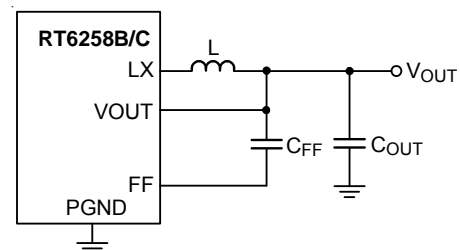
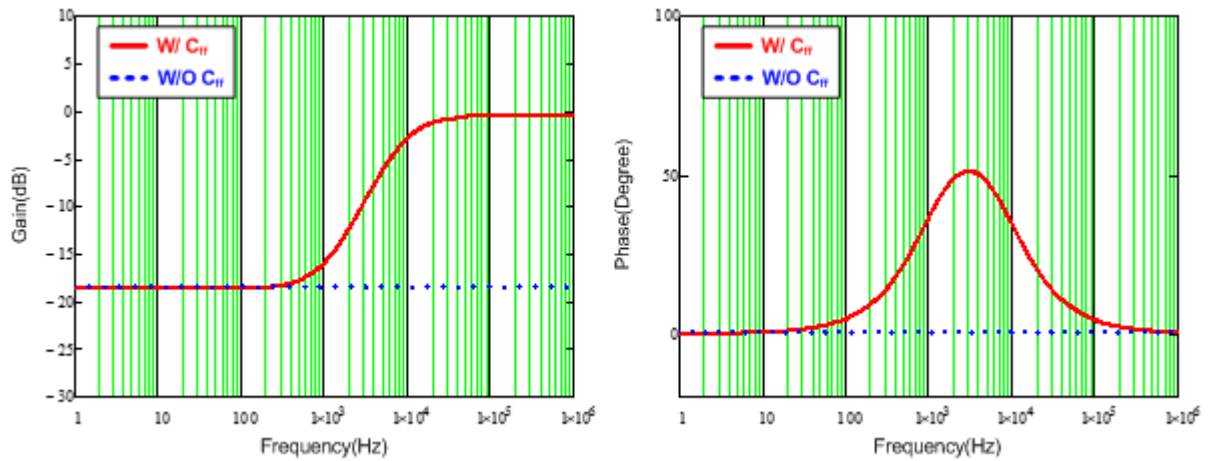

Figure 4. Feedback Loop with Feedforward Capacitor
Figure 5. Bode Plot with Different Feedback Loop Conditions
For saving time to design compensator and reducing the layout area through external components, the components of compensator are integrated in IC. However, this integrated compensator might not suit to every load transient spec. Hence, for the RT6258B/C to be more adaptable, the feedforward capacitor C_{FF} is used in the feedback loop to improve transient response, as shown in Figure 4. Figure 5 shows the comparison result of bode plot with different feedback loop conditions. Referring to Figure 5, through connecting a C_{FF} in feedback network, the gain and phase are raised in mid-frequency that not only can extend the bandwidth, but boost the phase margin as well. Moreover, there is also a high frequency pole to eliminate high frequency noise. Consequently, those features of feedforward feedback network allow the RT6258B/C have faster response to handle different load transient.
Observing Figure 5, the maximum phase boost occurs between zero and pole frequencies that is defined as maximum phase boost frequency, as expressed in equation (4). Hence, in order to achieve the maximum phase boost by adding C_{FF} in the RT6258B/C, the system's original bandwidth has to be located at maximum phase boost frequency.